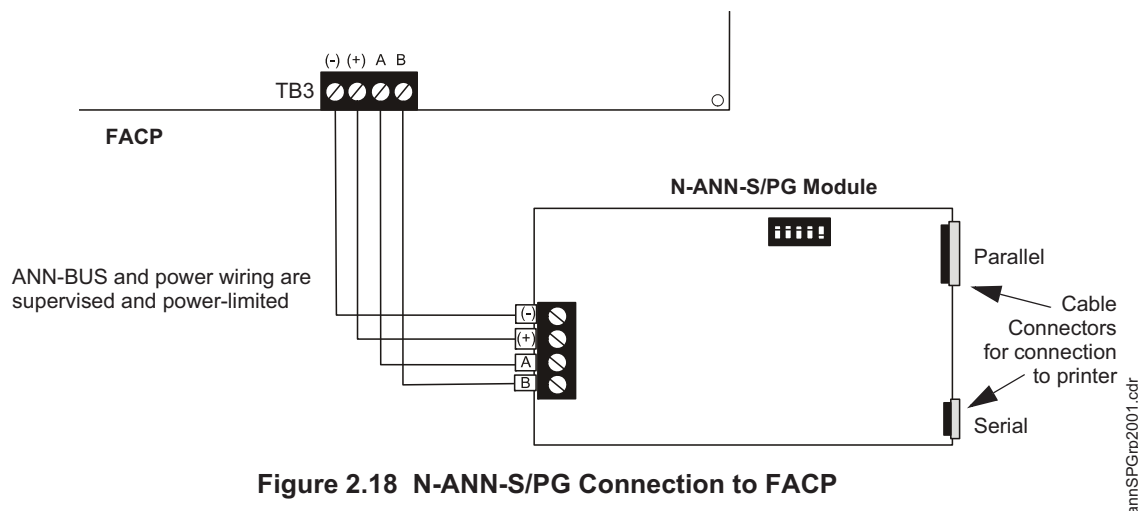

Figure 2.18 N-ANN-S/PG Connection to FACP
2. Connect the N-ANN-S/PG to the FACP as illustrated in Figure 2.18
5. Connect a printer to the N-ANN-S/PG Parallel or Serial connector (refer to Figure 2.18 on page 38)